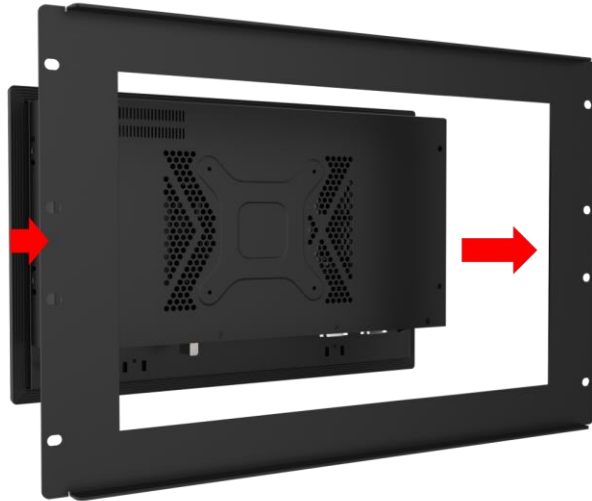

Figure 3-22: Machine mounted to panel
Step 3: Slide the PPC2-Cxxx-ADL Series through the hole until the aluminum frame is flush against the panel (**Figure 3-22**).